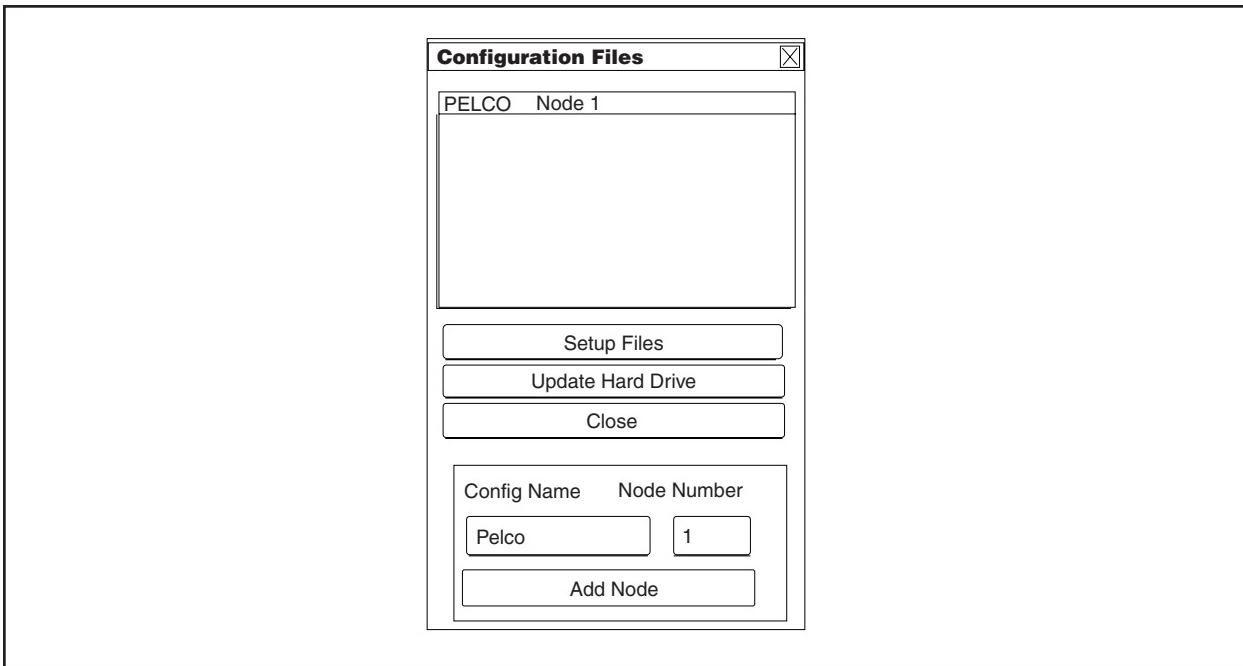

Figure 37. Setup File Dialog Box with Comms Tab Opened
1. Click on the Setup icon on the toolbar so that the Configuration files dialog box appears on the screen (refer to Figure 37).